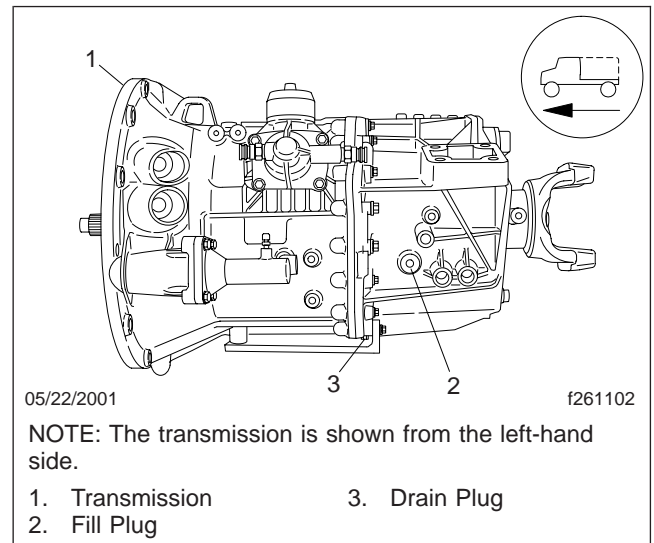
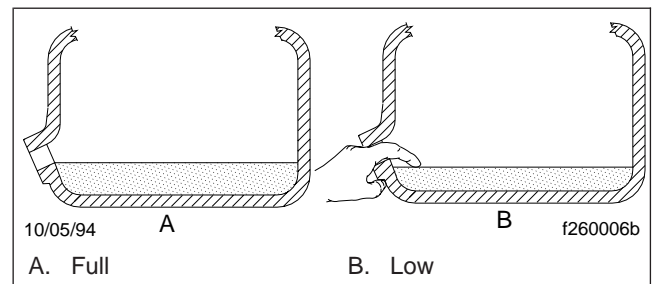

Fig. 10, MBT Drain and Fill Plugs
Fig. 11, MBT Fluid Level Checking
2. Drain the transmission fluid. See **Fig. 10**.
1. Add transmission fluid until it is level with the lower edge of the fill opening. See **Fig. 10** for location of the fill plug and **Fig. 11** for correct level. See **Table 5** for approved transmission lubricants and **Table 6** for lubricant capacities.